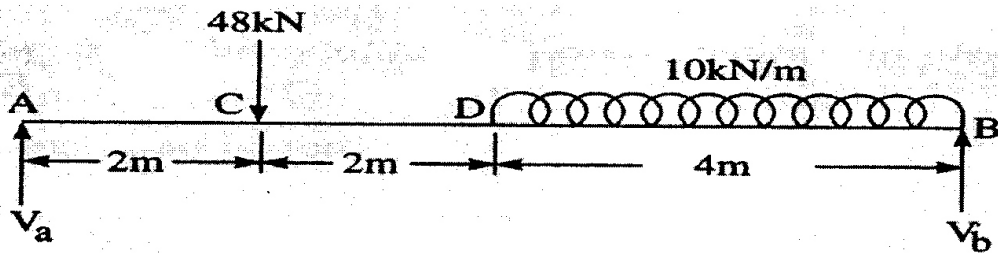

Fig. 3
15. For the simply supported beam shown in Fig. 3, find (a) slope at each end, (b) deflections at C and D and (c) maximum deflection.